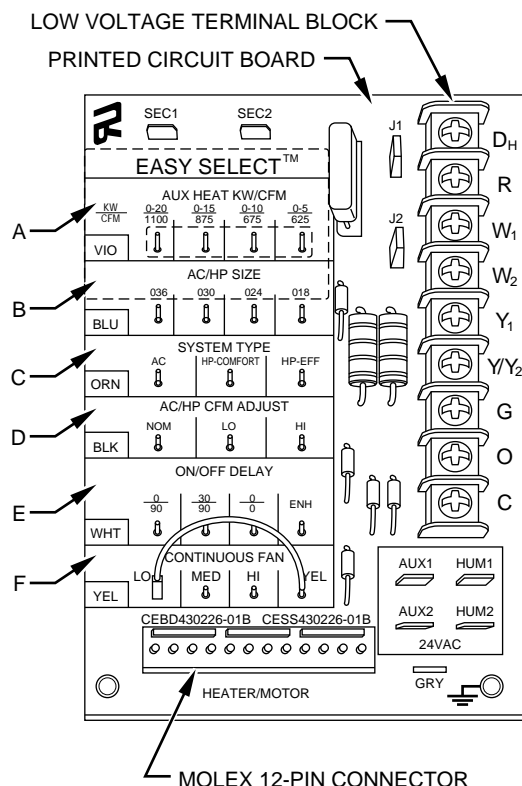

Fig. 15—Detail of FK4C Printed-Circuit Board
EASY SELECT™ taps are used by the installer to configure a system. ICM2 uses the selected taps to modify its operation to a pre-programmed table of airflows. Airflows are based on system size or mode of operation and those airflows are modified in response to other inputs such as the need for de-humidification. (See Fig. 15 and 16.)
Installer must select the auxiliary heat airflow approved for application with kw size heater installed. If no heater is installed, this step can be skipped. Each select pin is marked with a range of heaters for which airflow, also marked, is approved. For increased comfort select the narrowest kw range matching the heater size, for example, 0-10 for 10-kw heater. This airflow must be greater than the minimum CFM for electric heater application with the size system installed for safe and continuous operation. (See Tables 3 and 4 for airflow delivery and minimum CFM.) Note that airflow marked is the airflow which will be supplied in emergency heat mode and heating mode on air conditioners when electric heat is the primary heating source. In heat pump heating mode when electric heaters are energized, the ICM2 will run the higher of heat pump heating airflow and electric heater airflow to ensure safe heater operation. The factory selection is the largest heater range approved. (See Fig. 15, A as indicated.)
The factory setting for air conditioner or heat pump size is the largest unit meant for application with the model of fan coil purchased. Installer needs to select air conditioner or heat pump size to ensure that airflow delivered falls within proper range for the size unit installed. This applies to all operational modes with the exception of electric heat modes. (See Fig. 15, B as indicated.)
The factory setting is AC. (See Fig. 15, C as indicated.)
To provide airflow at rates described above, the AC/HP ADJUST select is factory set to the nominal (nom) tap. The adjust selections HI/LO will regulate airflow supplied for all operational modes, except non-heat pump heating modes. HI provides 15 percent airflow over nominal unit size selected and LO provides 10 percent airflow below nominal unit size selected. The adjust selection options are provided to adjust airflow supplied to meet individual installation needs for such things as noise, comfort, and humidity removal. (See Fig. 15, D as indicated.)
Four motor operation delay profiles are provided to customize and enhance system operation. (See Fig. 15, E as indicated)
3. HI speed — move connector of HI, 100 percent cooling mode airflow. (See Fig. 15, F as indicated.)
The following fan coil configuration is recommended for maximum heating and cooling/dehumidifying comfort: (See Fig. 15.)
7. If the fan coil is installed with Intelligent Heat Staging capable electric heaters, remove jumper J2. (See Fig. 15.)
Because the ICM2 blower motor used in the FK4C Fan Coil is controlled by low-voltage signals, a switched 230-vac electronic air cleaner power signal is not available. This signal is replaced by a 24-vac signal which is provided at PCB terminals AUX1 and AUX 2 (See Fig. 15 and 16.) This signal is present whenever the G thermostat signal is present (heat pump heating, cooling and continuous blower modes). When the FK4C Fan Coil is installed with an electronic air cleaner, use EAC relay kit Part No. KFAIR0201ACR or a field-supplied 24-vac relay.